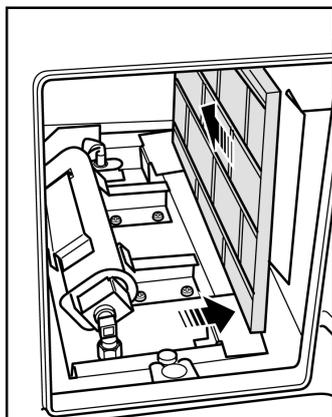

Figure 5
2. Fit the edge of the rear ceramic wall behind the side wall. The rear ceramic wall will rest on the base of the casting (see figure 5)